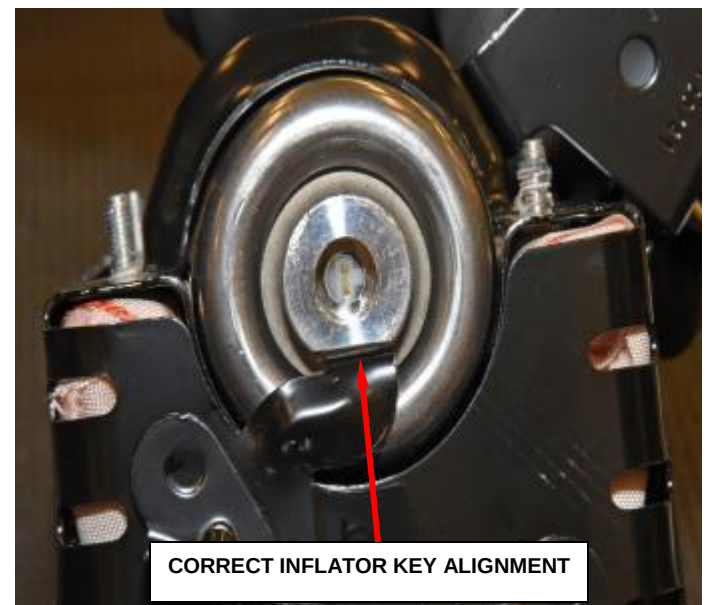

Figure 106 – Check for Inflator Key Alignment
- k. Slide **new** inflator into housing. The keyed end is inserted first, therefore the blue stripe on the inflator will be located at the open end, as shown (Figure 106).